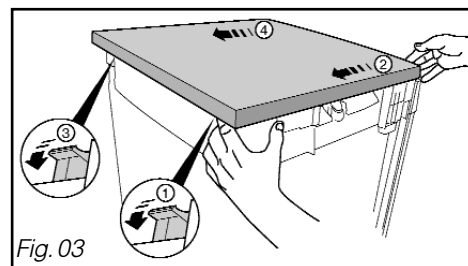

Fig. 03
- Remove the top by unclipping it from the back of the appliance and pushing it a few cm to move it (Fig. 03).
- Lift the top of your dishwasher to release it (Fig. 03).